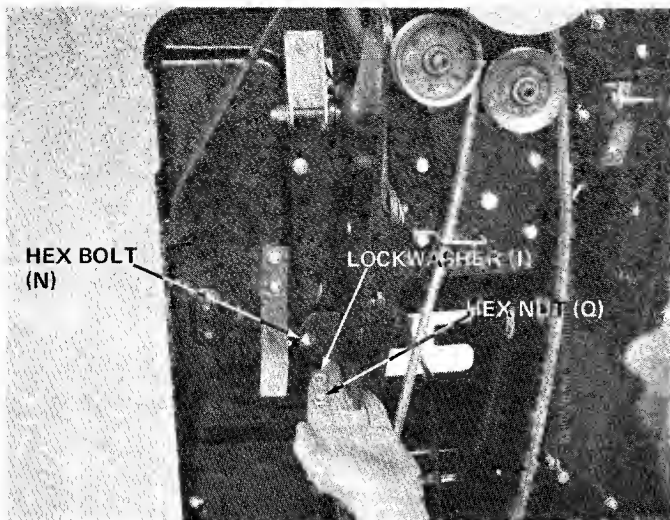

FIGURE 13
11. Place flanged edge of channel support bracket over hex bolt (N) (which you assembled in step 6). Secure with lock washer (I) and hex nut (Q). See figure 13.